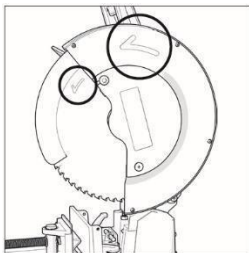

Fig 6.
- Install the blade onto the inner blade flange and arbor, ensuring that the direction and rotation arrow on the blade matches the direction of arrow rotation found on the machine's upper blade guard. (Fig. 6)